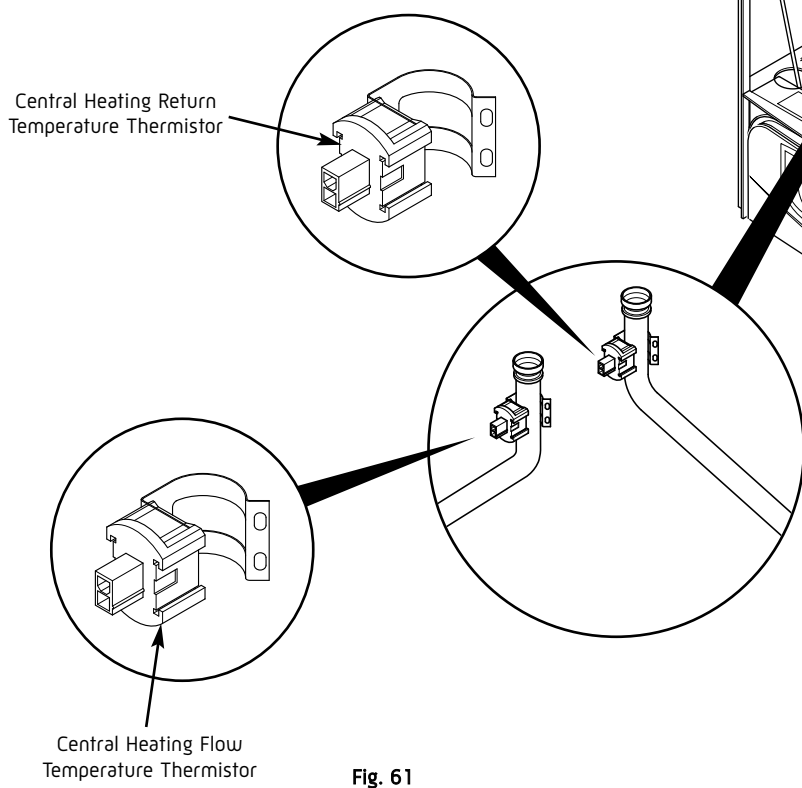

Fig. 61
2. Ease the sensor clip away from the pipe and remove (Fig. 61).